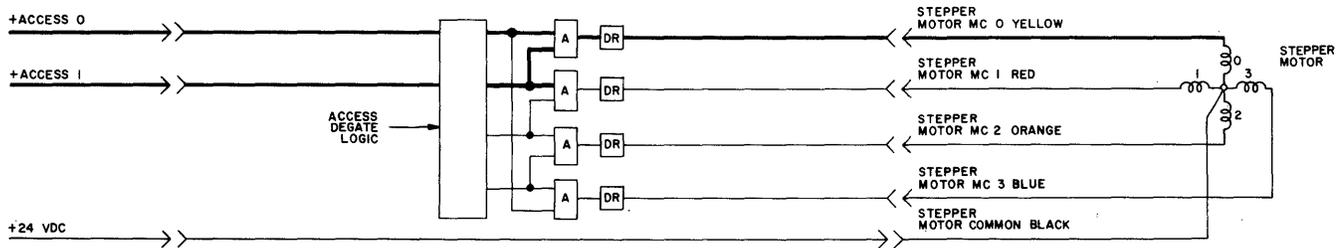

Figure 7-17. Stepping Signals
Two signals, access 0 and access 1, activate the stepper motor. These two signals are sent through an Access Degate logic block (Figure 7-17) through an AND (A) block where they are combined, then through an amplifier to increase the signal before going to the motor control line. At this point, motor control line becomes an electrical detent. The stepper motor armature will turn 1.8 to align with the detent made in the winding. The stepper motor will remain in this detented position until the system electronics signal the access lines again.